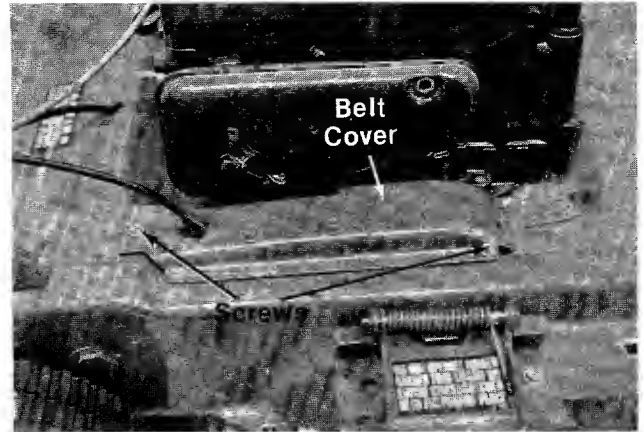

FIGURE 19.
5. Remove the two screws holding the belt guard cover on top of the deck. See figure 19.